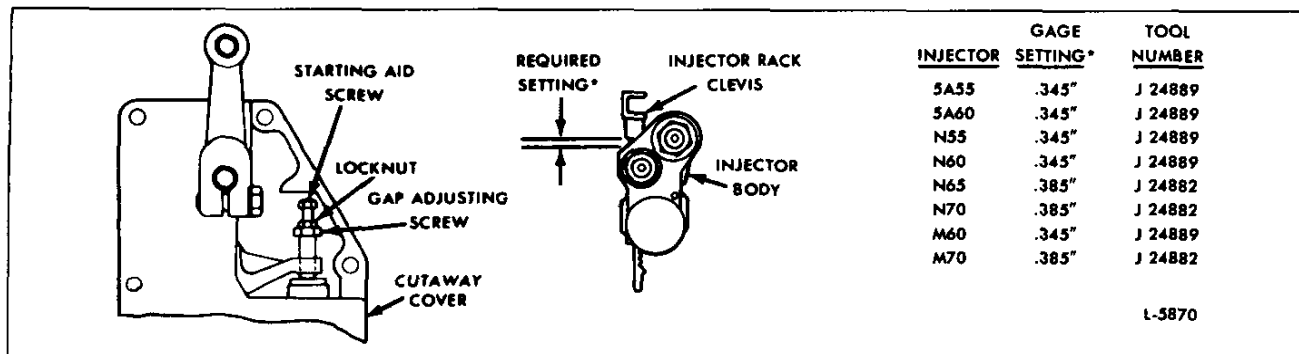

Fig. 5 - Starting Aid Screw Adjustment
- Install a cutaway governor cover assembly, on the governor housing (Fig. 5).
- Hold the gap adjusting screw to keep it from turning and adjust the starting aid screw to obtain the required setting between the shoulder on the injector rack clevis and the counterbore in the injector body (Fig. 5). Move the gage back and forth along the injector rack until a clearance of $1/64"$ is noted. The setting is measured at any convenient cylinder. Tighten the locknut on the starting aid screw sufficiently to prevent oil leakage as well as to hold the adjusting screw setting.